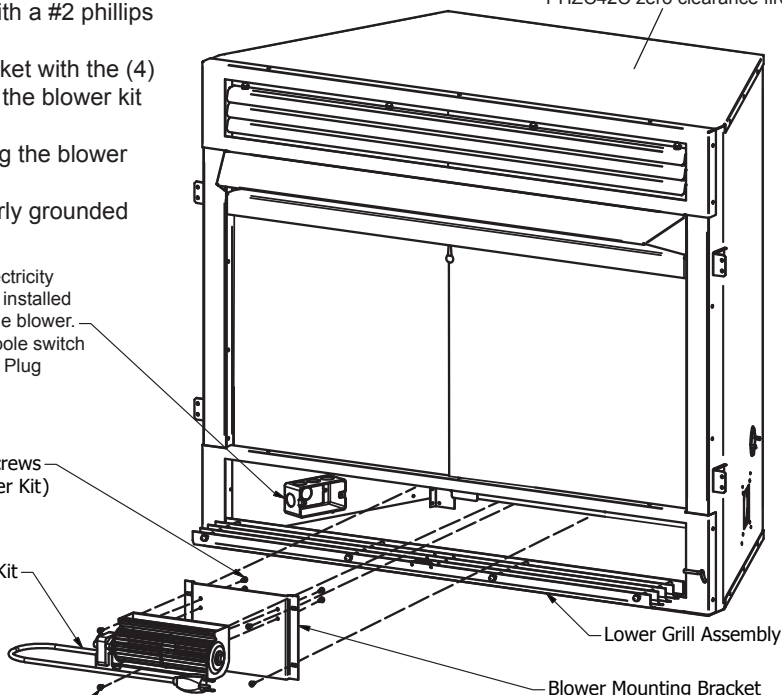

Figure 15 - Blower Installation
2. Attach the blower to the bracket with the (4) sheet metal screws included in the blower kit as shown in Figure 15.